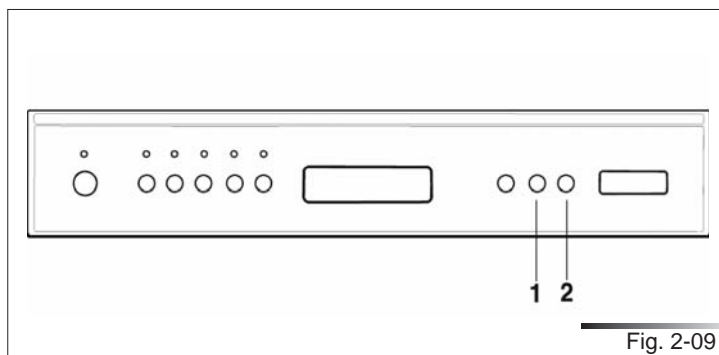

Fig. 2-09
Press the **Program delay** button (ref. 4 fig. 2-03). The display shows the number of hour's delay before the appliance starts, starting from 1 hour. In particular, the display will appear as shown in figure 2-09.
- press the **Program delay** button (ref. 1 fig. 2-09) until the symbol H followed by the number 3, **>H3**, appears on the display;
- then press the **Program delay** button (ref. 1 fig. 2-09) to select the level of water hardness (**H0, H1, H2, H3, H4, H5**);
- press the **start/pause** button (ref. 2 fig. 2-09) to confirm and return to the program settings menu.